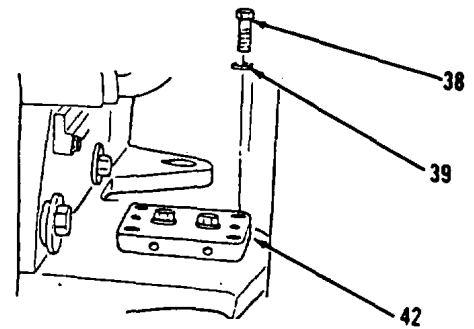

Figure 16-9.
7. Install four lockwashers (39) and bolts (38, Figure 16-9). Cross tighten four bolts (38) to 75 ft-lb torque. Tighten one of four bolts (38) to 75 ft-lb torque. Tighten one of four bolts (38) in the upper right corner of plate (42), then tighten the next of four bolts (38) in the lower left corner. Tighten two remaining of four bolts (38).